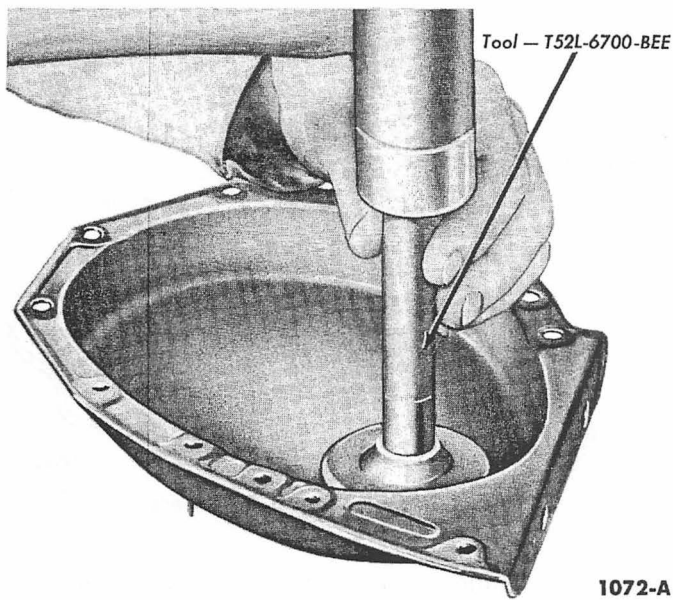

Fig. 24—Oil Seal Installation
2. Coat a new seal with grease, then install the seal (Fig. 24). Drive the seal in until it is fully seated in the recess. Check the seal after installation to be sure the spring is properly positioned in the seal.